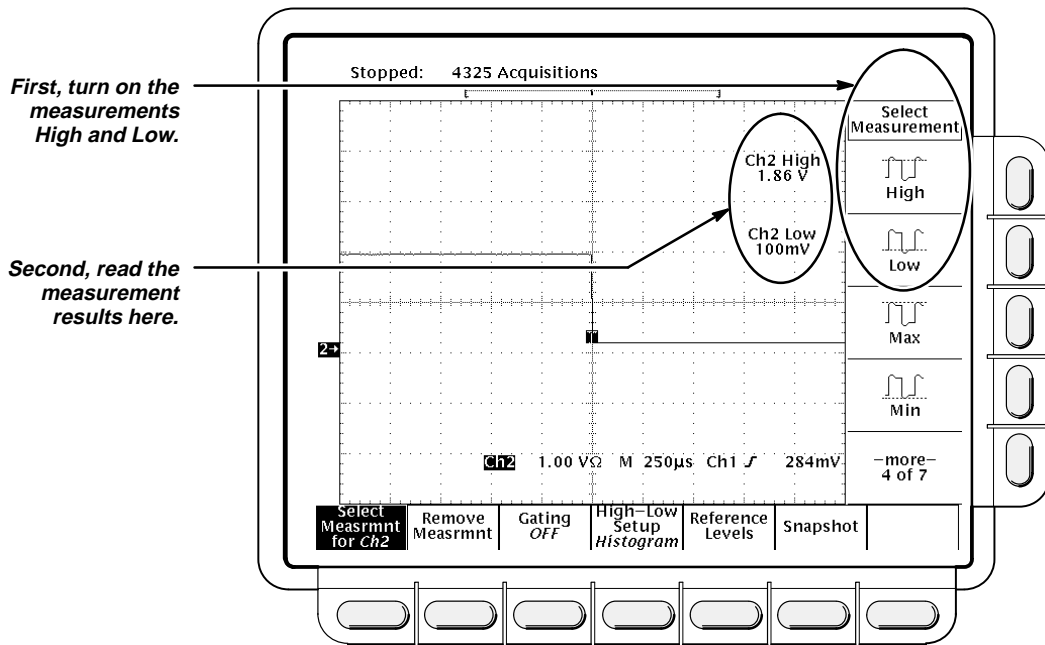

Figure 1-21: Measurement of Main Trigger Out Limits
- CHECK that the **Ch2 High** readout is ≥ 1.0 volt and that the **Ch2 Low** readout ≤ 0.25 volts (see Figure 1-21).